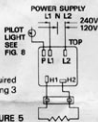
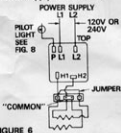
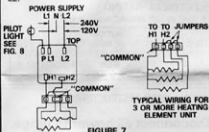

FIGURE 5
FIGURE 6
FIGURE 7
REMOVE CLEAR PROTECTION**FIGURE 4****ATTACH OVERLAY****FIGURE 6****REMOVE BACKING****FIGURE 5****OBTAIN A PERMANENT FIT****FIGURE 7**
6. Carefully peel off the backing from the adhesive that is on the back of the SLIP-FIT overlay. Try not to touch the adhesive. See Fig. 5.
7. Position the SLIP-FIT dial overlay over the knob with the "Off" position aligned in the desired position. Carefully slide the SLIP-FIT overlay down and over the locating ribs on the knob, see Fig. 6.
8. Press the SLIP-FIT overlay down firmly into position. Use a soft cloth and rub around the overlay to obtain a permanent fit. See Fig. 7.